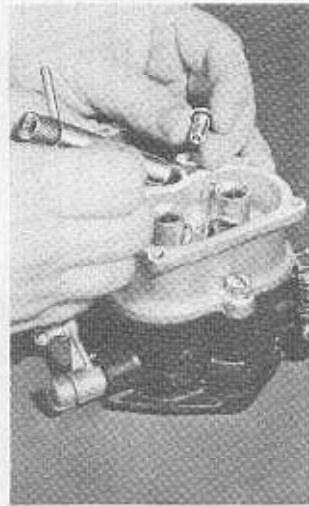

Fig. 6
**6** Remove following as shown in Fig. 6, using special screw driver #9594-B:
- (1) 67-9594 Economizer valve (Power by pass valve)